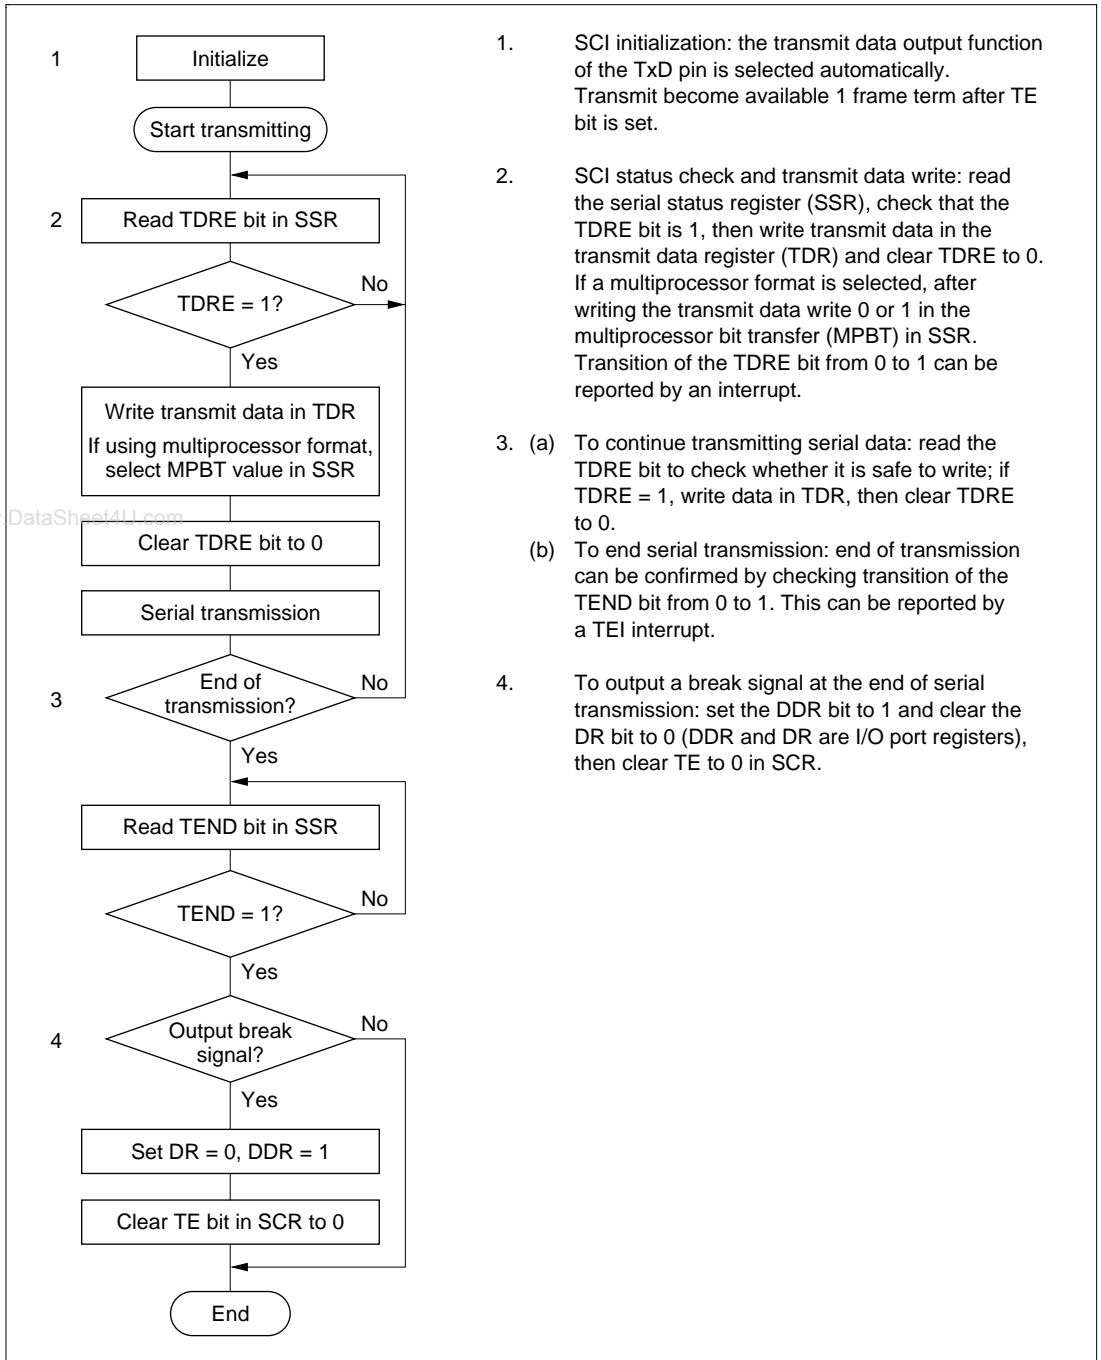

Figure 14.5 Sample Flowchart for Transmitting Serial Data
- **Transmitting Multiprocessor Serial Data:** See figures 14.5 and 14.6.